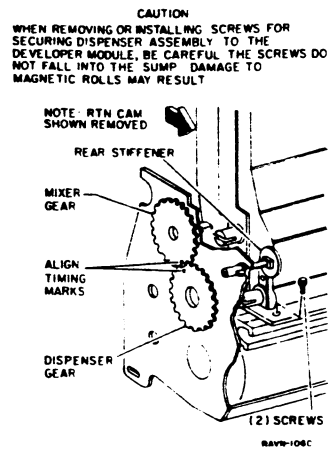

Figure 1. Removing the Dispenser Assembly
- c. Move dispenser off developer module as shown (Figure 1).